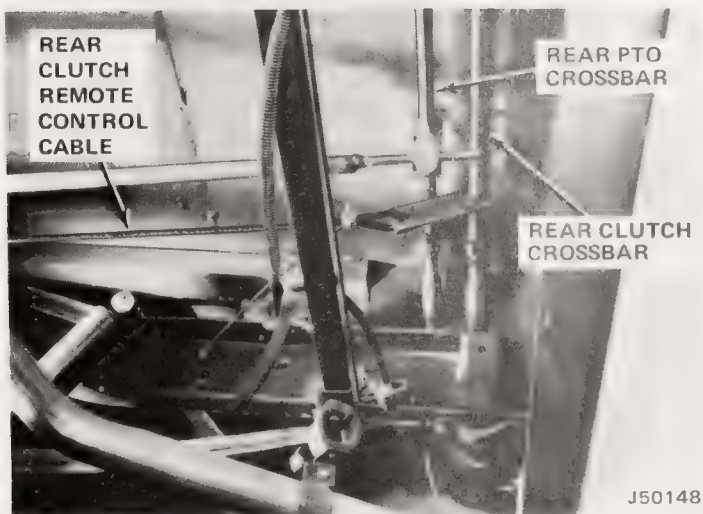

Fig. 10-5 Rear Clutch Cable Installation
(2) Remove rear clutch remote control cable from front and rear clutch control crossbars (fig. 10-5).